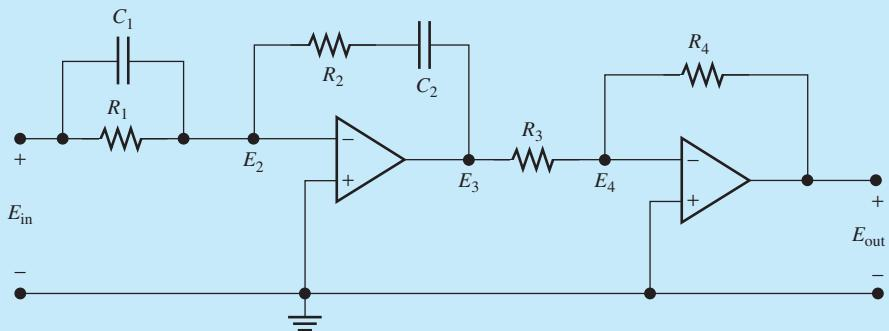

FIGURE 11.23 An operational amplifier circuit representing a PID controller.
- Given the circuit of the PID controller shown in Figure 11.23, determine the transfer function of the controller assuming $R_1 = 2000 \Omega$, $C_1 = 875 \mu\text{F}$, $R_2 = 2500 \Omega$, $C_2 = 400 \mu\text{F}$, $R_3 = 450 \Omega$, $R_4 = 480 \Omega$.